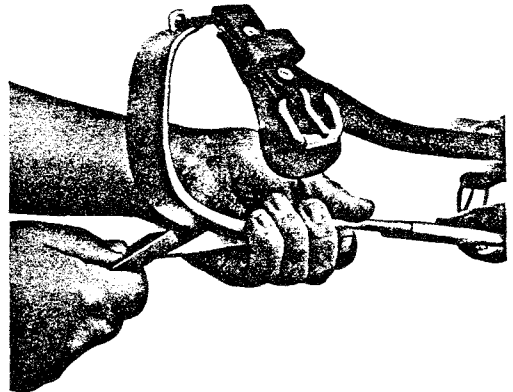

Fig. 20—Honing Inner Surface
7.04 Hone the inner surface of the gaff by starting the stroke near the leg iron and continue over the rounded curve of the tip as indicated in Fig. 20. Stop the honing stroke before the stone slides off the end of the gaff to prevent dulling the tip. About 20 to 25 strokes of the honing stone should be enough. *Do not attempt to reshape the tip of the gaff.*